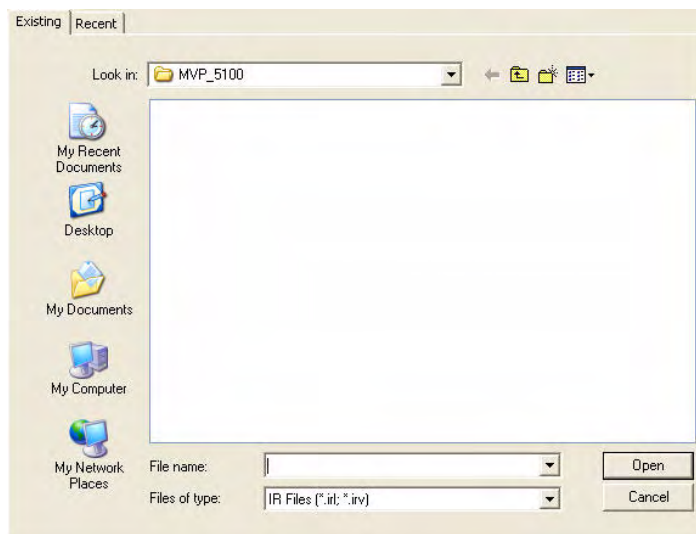

FIG. 82 Add Existing IR File window
- In the NetLinx Studio Workspace, select *Add Existing IR File...* to open the *Add Existing IR File* window (FIG. 82).